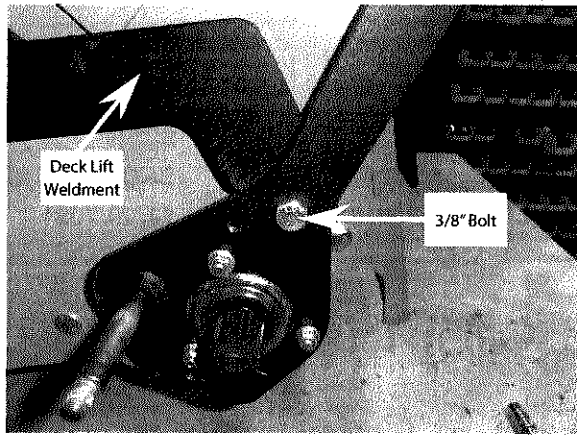

Figure 2
5. After the rear wheel cover has been removed, locate the 3/8" bolt and deck pivot nut securing the deck lift weldment to the rear axle weldment. See Figure 2, Page 2. Remove the 3/8" bolt and deck pivot nut from the deck lift weldment and retain the hardware to be re-used in step 15.